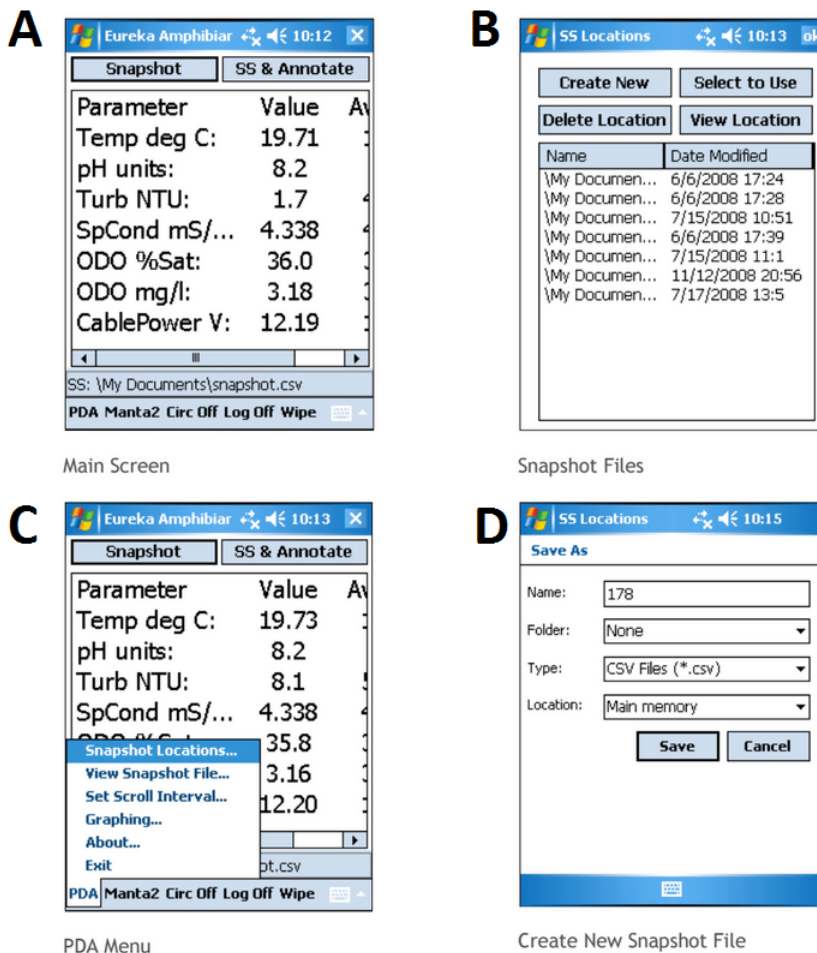

Figure 1: Amphibian Working Screens
**up + P3** and **arrow up + P4**. When you open the Amp\_2.2\_6, the Main screen will appear(A) (Figure 1). This is where you will see data readings. To log, or store, one line of data take a "snapshot" with the top left button (A). To locate snapshots, open the PDA menu in the bottom left corner and select "snapshot locations"(B). In the SS locations screen (C) you can edit your files or a create new one. When creatign a new file (D), annotate using the guidelines in 10.5. To see data presented graphically, open the PDA menu and select "graphing" (B). To exit the program, again open the PDA menu and select "Exit."